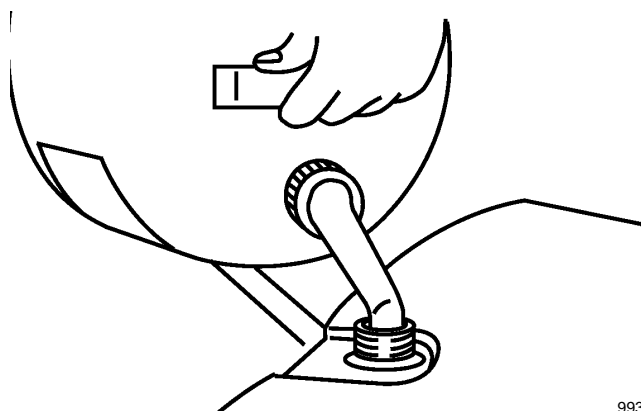

Figure 10
1. Clean around fuel cap before removing (Fig. 10). Fill fuel tank with gasoline/oil mix to within 1/4 inch (6.5 mm) of top of tank, not into filler neck. **DO NOT OVER-FILL TANK.** Replace fuel cap securely and wipe up any spilled fuel.